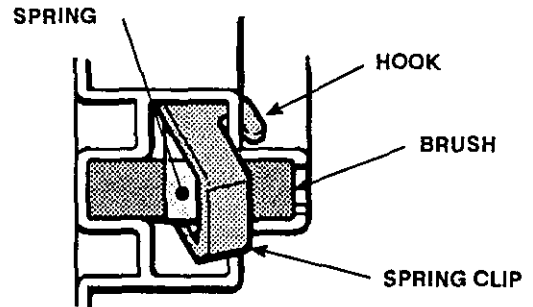

Fig 13-2
2. Push in the spring clip to unhook it, and then pull it out. See Fig 13-2.